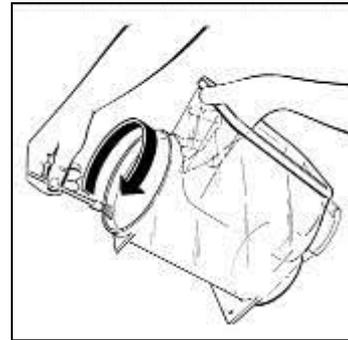

Fig. 25
- Moisten with water the rear of the tank where it meets with the seal to facilitate the reassembling procedures (see fig.25);